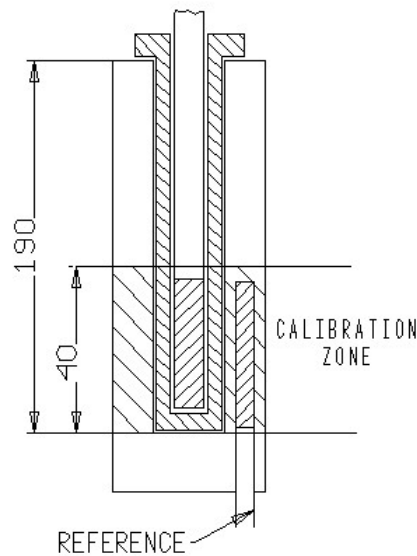

Fig.2
- Put the probe up to the bottom of the block: the sensitive element is in the optimal calibration zone (fig. 2).